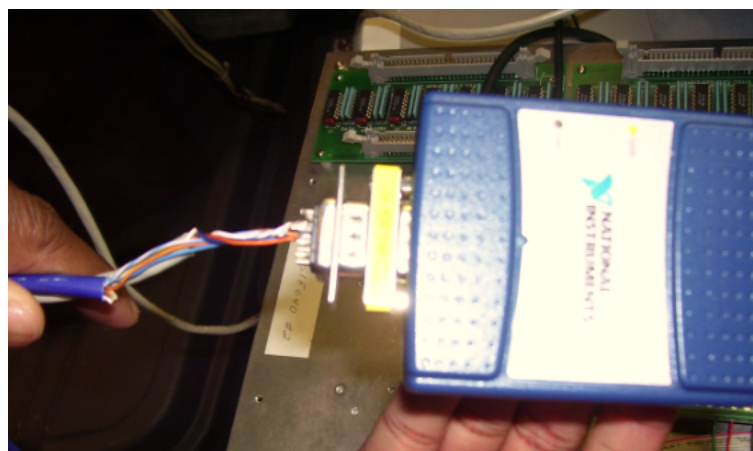

Figure 10: NI USB Connection.
- 2) There are 3 DB-9 connectors on the CAN bus cable. In order to interface with the NI MCU Adapter, the **male** DB-9 Connector must be connected to the **Female to Female Adapter** before being plugged into the corresponding blue NI Female DB-9 connection. This is shown in the following Figure 10 below.